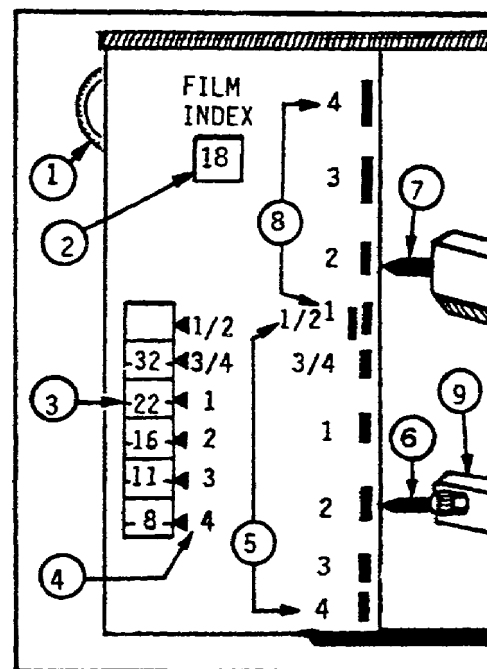

Figure 1-10. Exposure and Magnification Controls.
- (1) To select the correct aperture, adjust the focus and magnification. Read the numbers at the lens carriage 6 and camera carriage 7 pointers (fig. 1-10). In this case it reads 2. Go to the aperture window 3 and read the f/stop opposite 2. It shows f/16.
- (2) Set the aperture to f/16. Your camera is now set for the correct exposure.